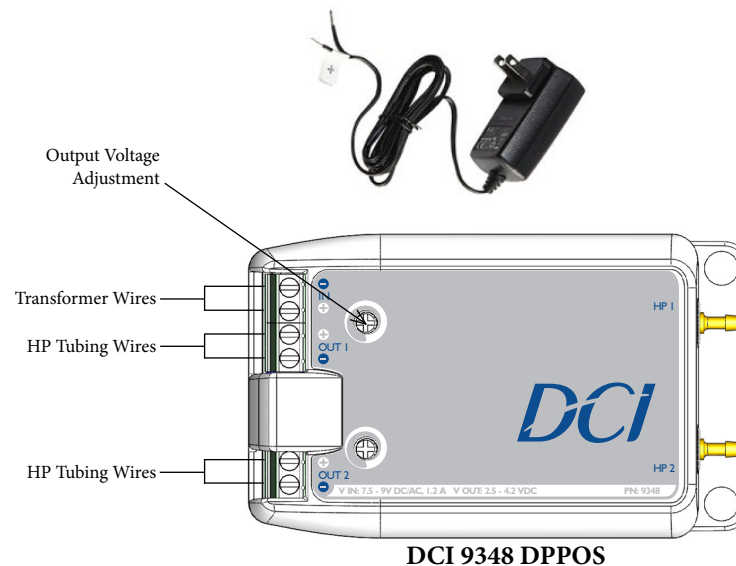

Fig. 2 - Attaching Wires to the DPPOS
2. Attach the transformer wires and the handpiece tubing wires to the DPPOS terminals as shown in Fig. 2.
1. The new DCI DPPOS is preset to an output of 3.5V but has a voltage adjustment feature. This feature allows the user to set the necessary output voltage based on the handpiece manufacturer requirements. Use a #2 slotted precision screwdriver to adjust the DPPOS output voltage by accessing the adjustment potentiometer, and turning clockwise to increase or counterclockwise to decrease the output voltage. Output voltage is measured at the terminals labeled "OUT". See Fig. 2.